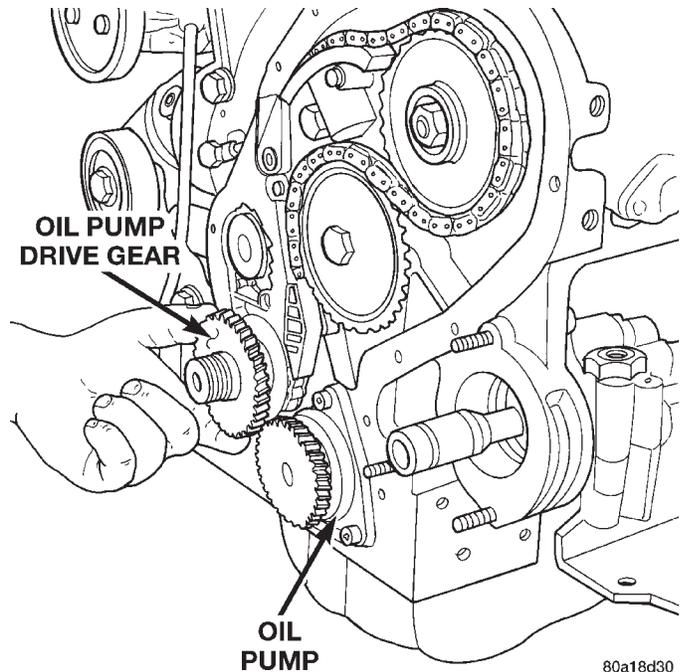

Fig. 41 Oil Pump Drive Gear
(8) Remove timing chain cover. Refer to removal procedure outlined in this section.
(9) Remove oil pump drive gear attached to crankshaft (Fig. 41).